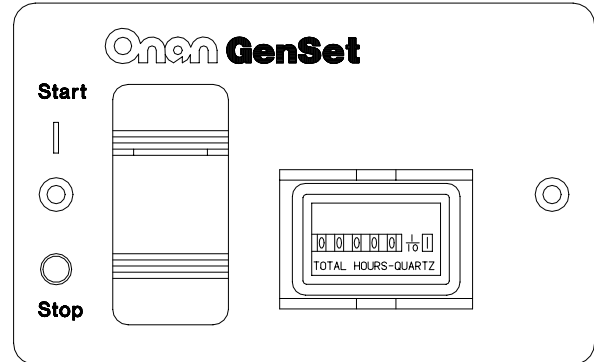

FIGURE 13. REMOTE CONTROL / HOUR METER
- Remote start/stop switch with indicator lamp and hour meter (Figure 13).